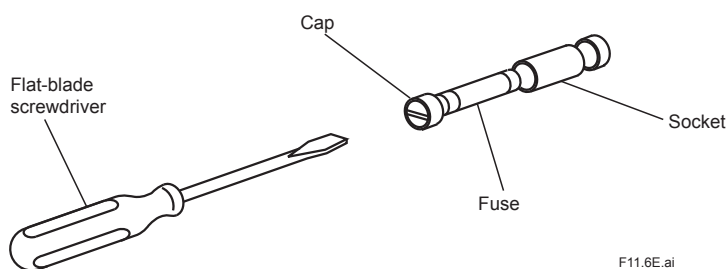

Figure 11.6 Removing the Fuse
- (1) Turn off the power to the converter for safe replacement.
- (2) Remove the fuse from its holder. With the appropriate flat-blade screwdriver that just fits the holder cap slot (Figure 11.6), turn the fuse holder cap 90° counterclockwise. By doing so, you can remove the fuse together with the cap.